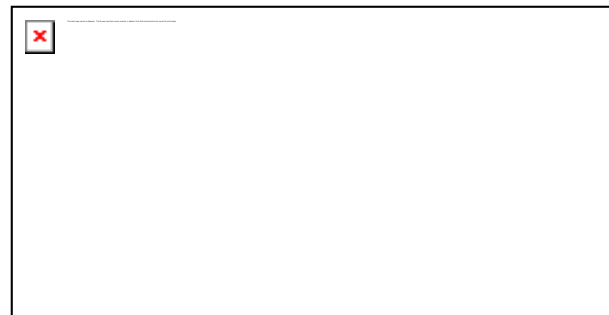

Figure 16. Locking position/transverse longitudinal movement and of the hose adaptor
2. After adjusting the position of the hose adaptor, insert the special single port cleaning hose into the hose adaptor, and bring it back into locking position (Figure 16).
4. Based on the washer's pressure, clean the port based on the table below. While cleaning, continuously move the hose adaptor within the longitudinal and transverse slots (Figure 16).